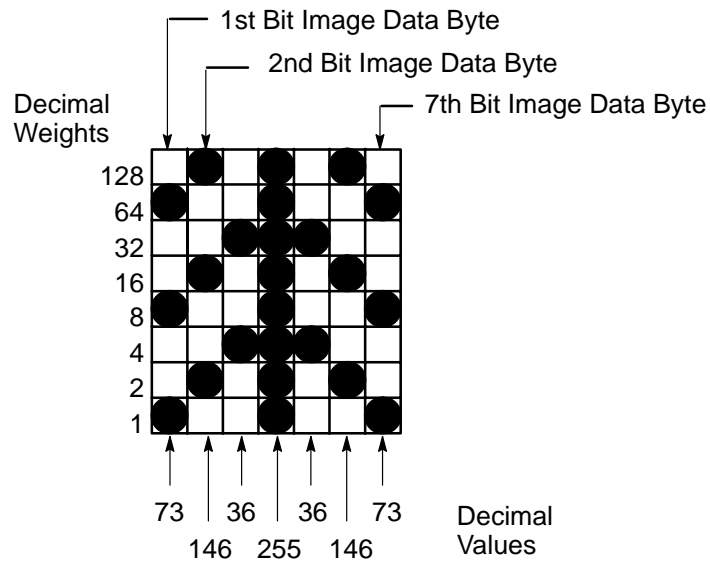

Figure 5-3. Bit Image Pattern Plan
2. Determine the decimal equivalent of each bit image data byte required to produce your pattern (Figure 5-3).